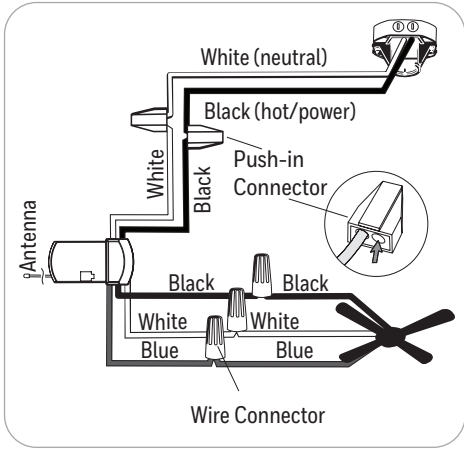

Figure 2
4. Make wiring connections (Figure 2). **Warning:** Incorrect wire connection can damage this receiver and could cause injury or fire.